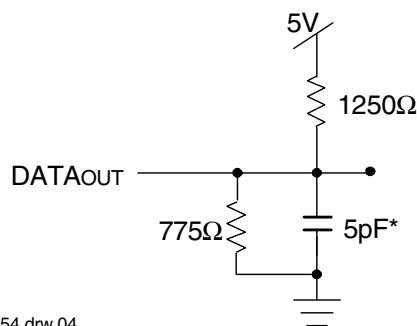

Figure 2. Output Test Load
1. Transition is measured 0mV from Low or High-impedance voltage with the Output Test Load (Figure 2).
1. Transition is measured 0mV from Low or High-impedance voltage with Output Test Load (Figure 2).
7. This parameter is determined by device characterization, but is not production tested. Transition is measured 0mV from steady state with the Output Test Load (Figure 2).